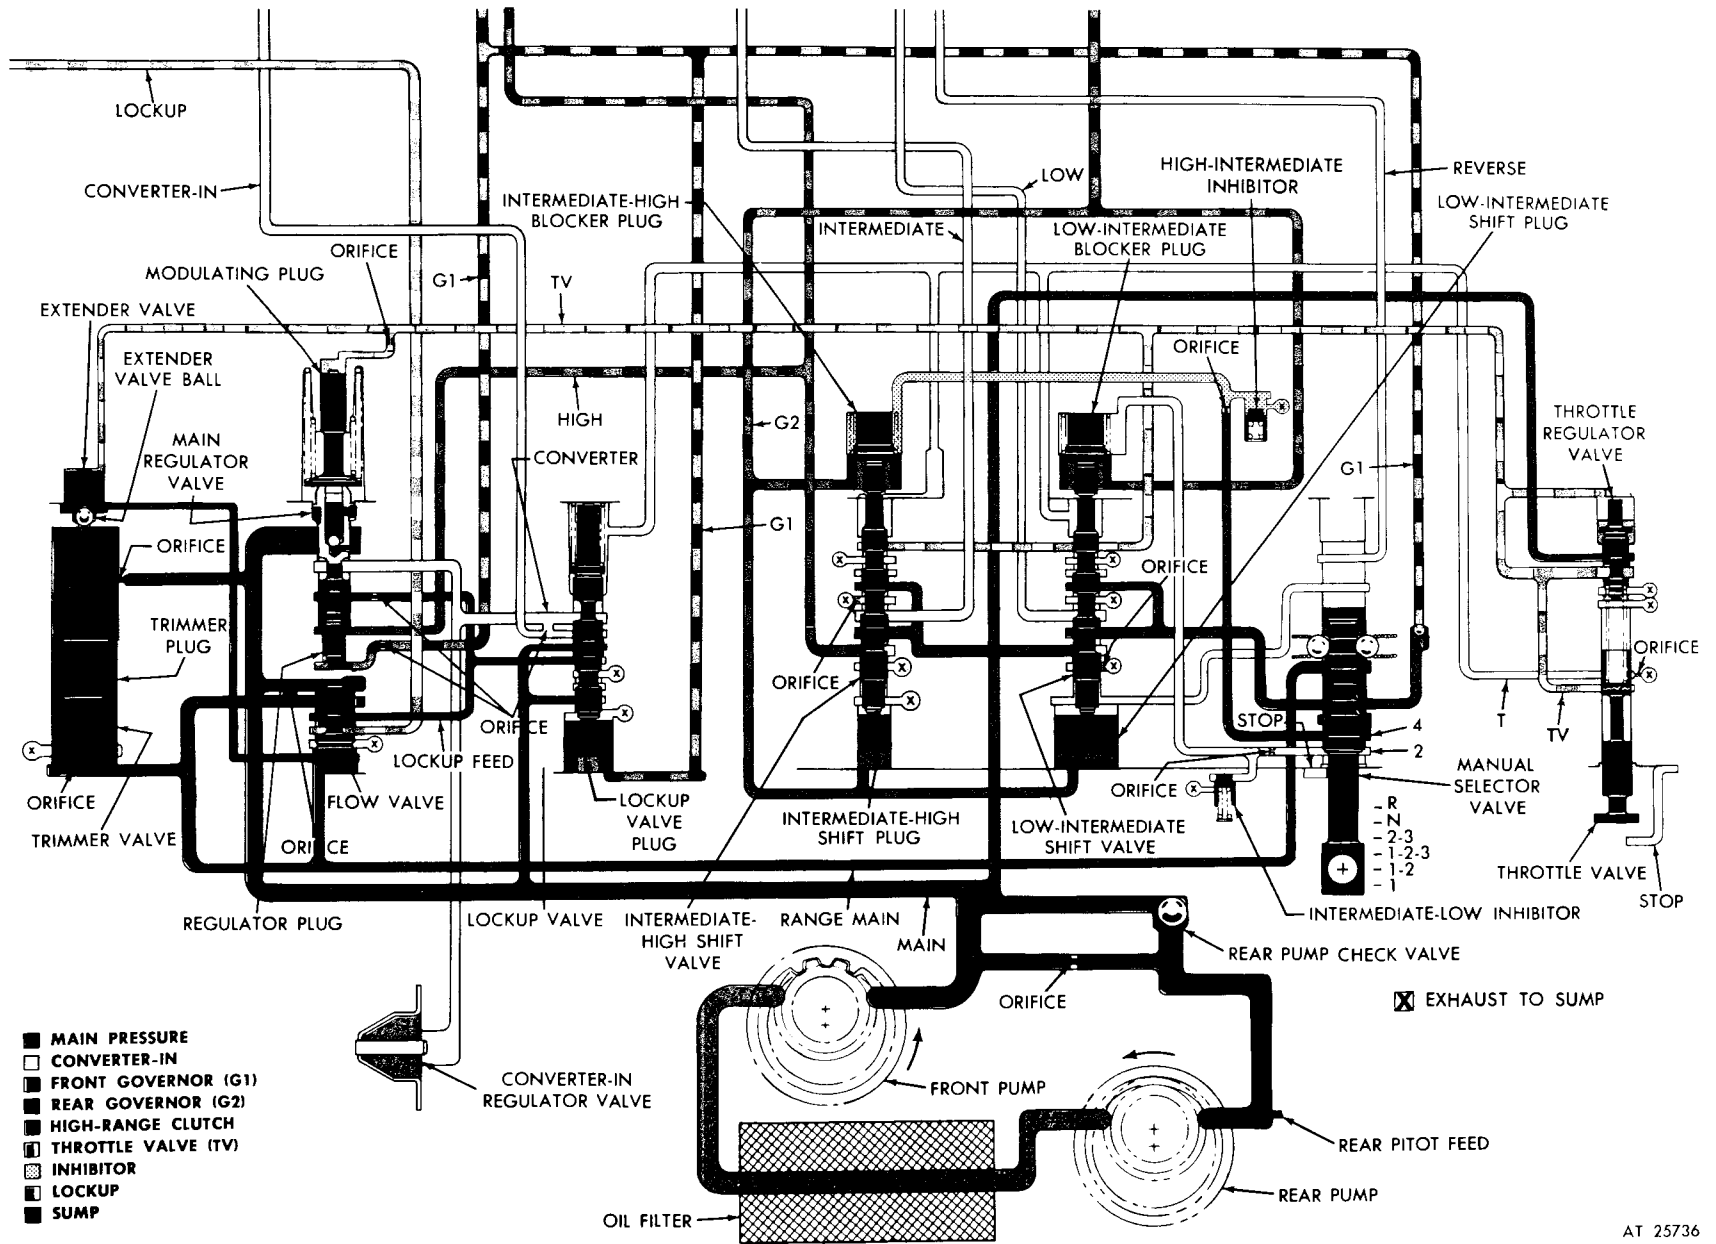

Figure 2-9. Hydraulic system, high-intermediate inhibitor acting—schematic view.
*a. Inhibitor Prevents 3-2 Downshift at Excessive Speed* (fig. 2-9).
(1) Figure 2-9 illustrates the hydraulic system in high-range operation even though the manual selector has been moved to a position which does not indicate high-range operation. This condition results when vehicle (transmission output) speed is too great for safe operation in intermediate-range at the time a manual downshift is made.
(2) When the manual downshift is made, rear governor (G2) pressure is sufficient to continue holding the intermediate-high shift plug, shift valve, and blocker plug upward against spring force and inhibitor pressure. This extends high-range operation of the transmission during the period the vehicle is moving at excessive speed.
(3) When vehicle speed decreases, G2 pressure also decreases. When G2 pressure falls to a value which will no longer hold the intermediate-high shift plug and valve upward against spring force
*b. Other Functions Same as 1-2-3 Operation* (fig. 2-9). In high-range operation (selector at 1-2 position), the circuits not involved in action of the high-intermediate inhibitor operate as described in paragraph 2-17 for high-range (1-2-3) operation.